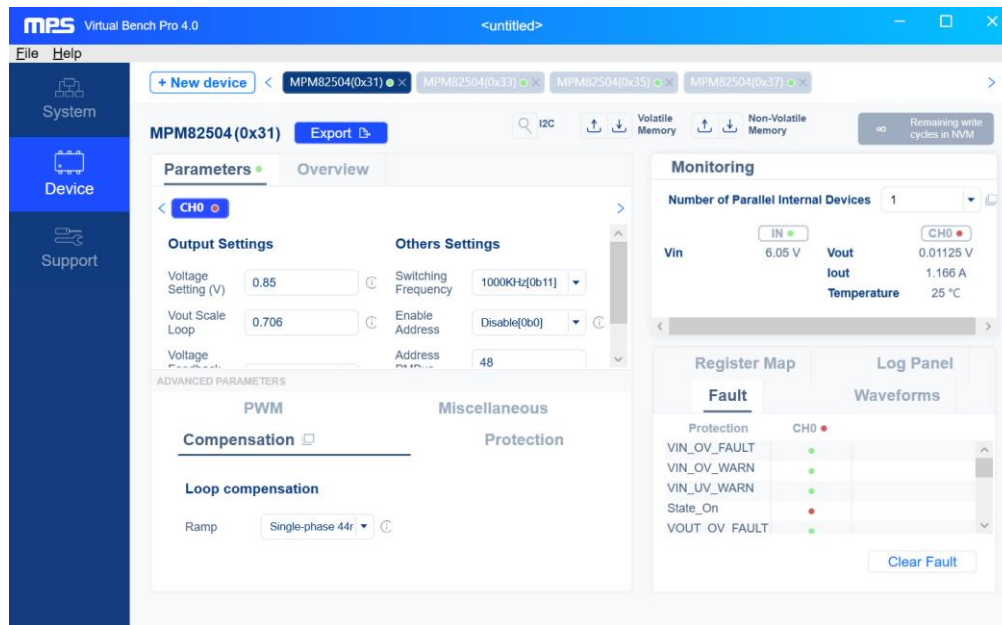

Figure 5: MPM82504 GUI Screen
5. The operating conditions, including the output voltage (V_{OUTx}), input voltage (V_{IN}), output current (I_{OUT}), and temperature, can be monitored on the right-side panel of the GUI (see Figure 5).